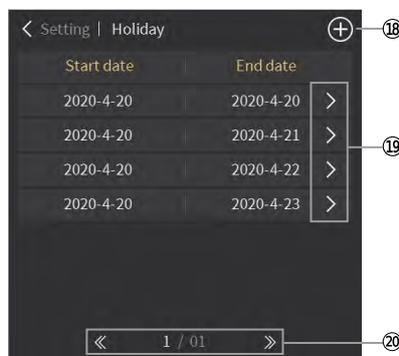

Fig.2.11.14
- ⑰ Add holidays by touching the icon;
Enter the interface as shown in Fig.2.11.14 by touching icon ⑰. Timing is off during holidays.
- ⑱ Enter the holiday time setting by touching the icon;